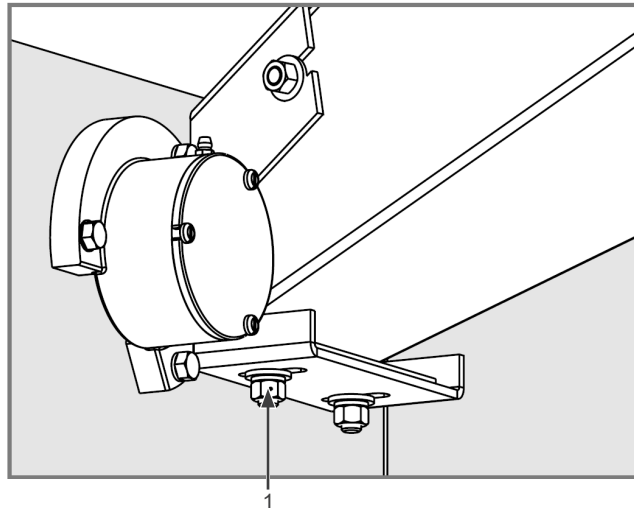
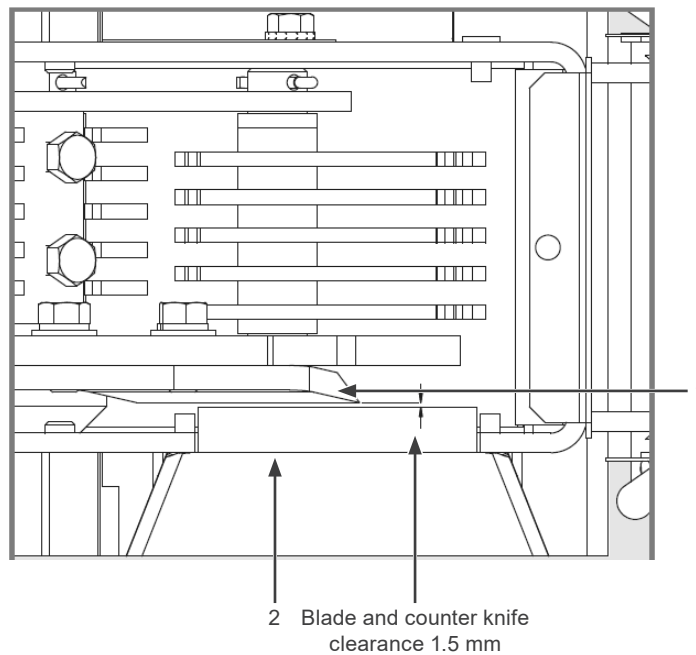

Figure 10.1: Counter knife1
Figure 10.2: Counter knife2
The counter knife adjustment is performed by loosening the two (2) mounting bolts (1), as shown in Figure 10.1 on page 146, and repositioning it until the blades pass at a distance of approximately 1.5 mm from the counter knife, as illustrated in Figure 10.2 on page 146. The counter knife must be sharpened when signs of wear are observed.